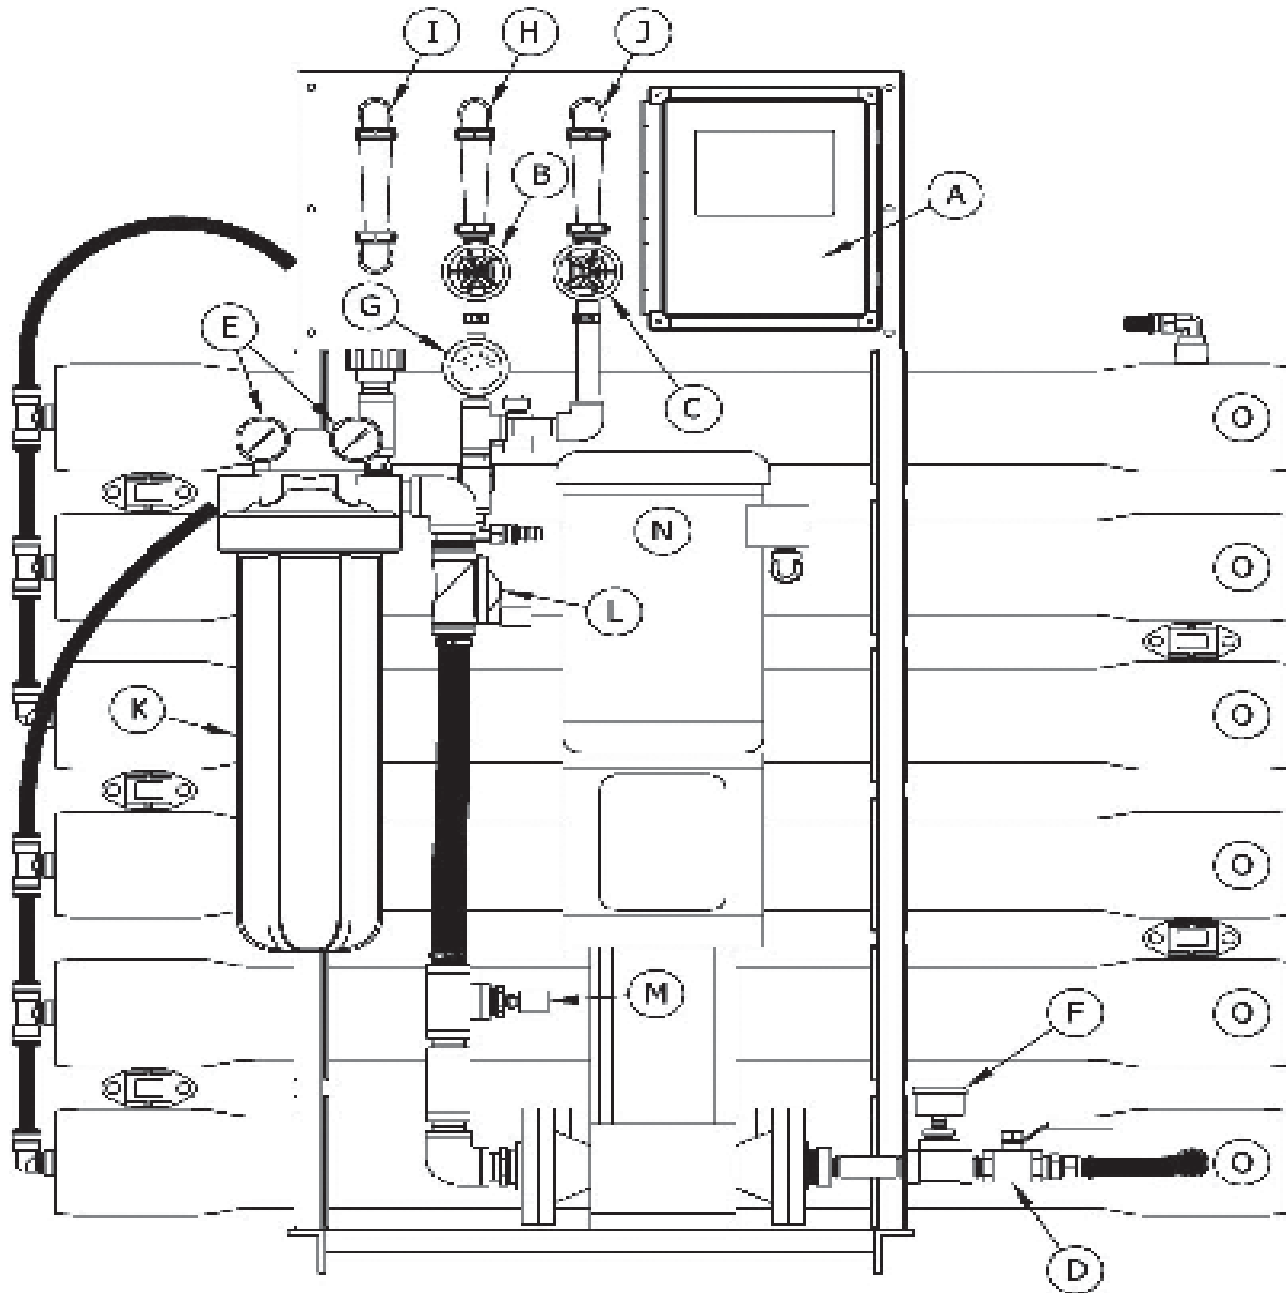

Figure 2.4.: Reverse Osmosis Systems of Series PWR4021
2. Verify that the pump discharge valve (Figure 2.4.item D)
3. Install a 20" five micron filter cartridge in the prefilter housing (Figure 2.4.item k)
4. Open the reject control valve completely counterclockwise (Figure 2.4 item K)
5. Close the reject recycle control valve completely by turning it clockwise (Figure 2.4.item C)
7. Open the inlet solenoid valve by turning the white lever located near the valve outlet (Figure 2.4.item L)
8. Ensuring water flow through the system and to drain through the reject flow (Figure 2.4.item H)
10. Close the pump discharge valve half way (Figure 2.4.item D)